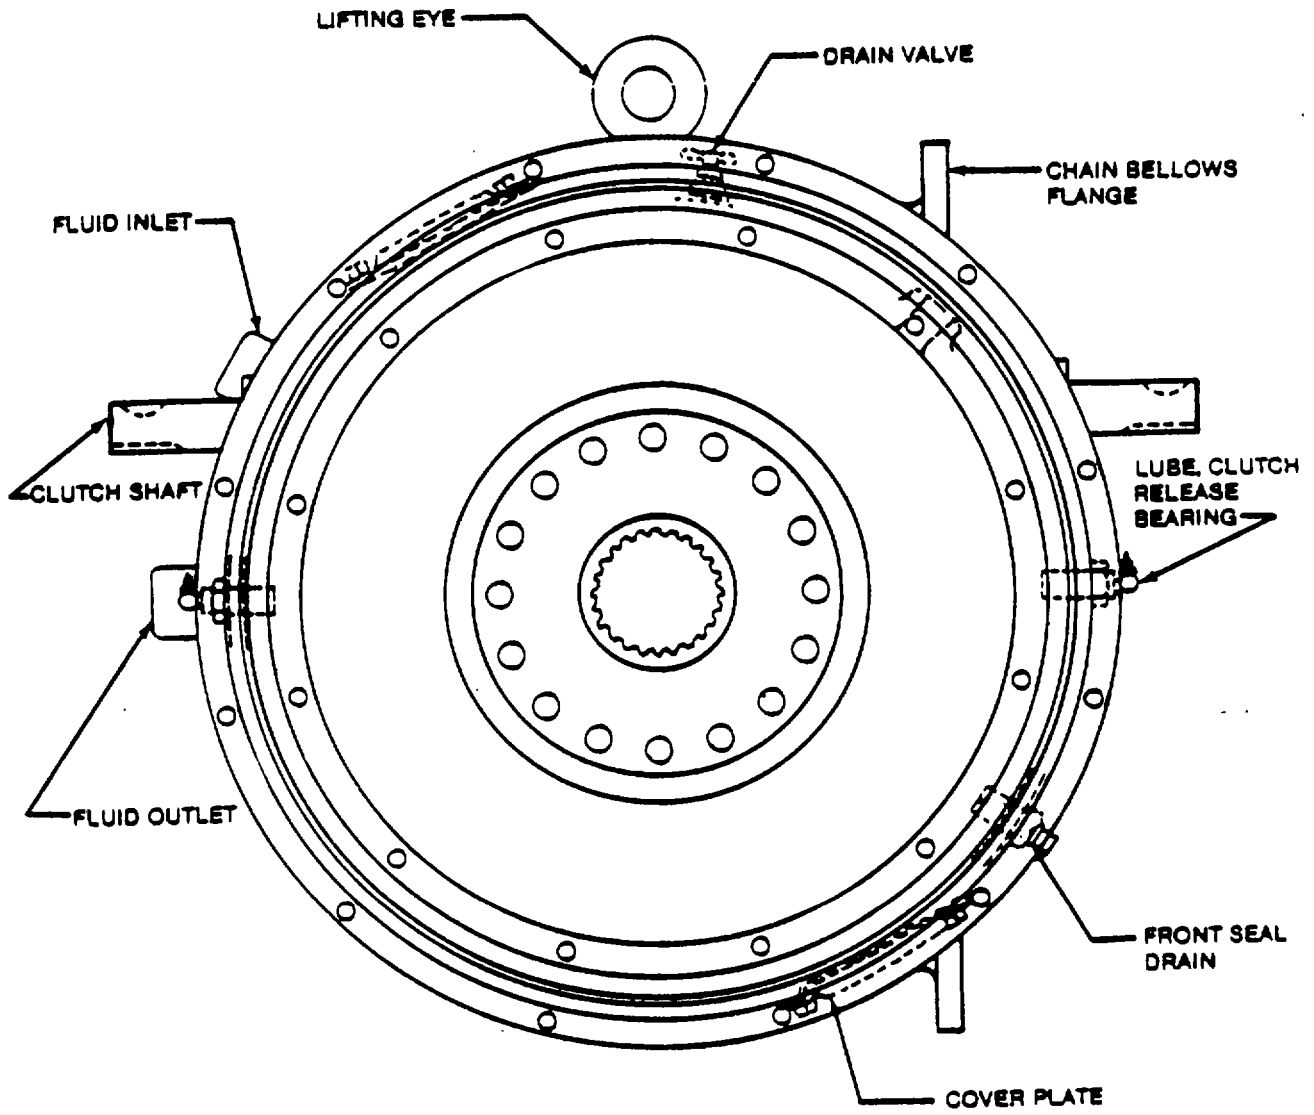

Figure 5-38. Fluid Line Installation.
h. Refer to Figure 5-38 and install fluid cooling lines as follows:
- (1) Check for burrs and nicks on fluid couplings and remove prior to installation of the lines.
- (2) Install 1 inch ID fluid outlet on side of converter 90° from top center.